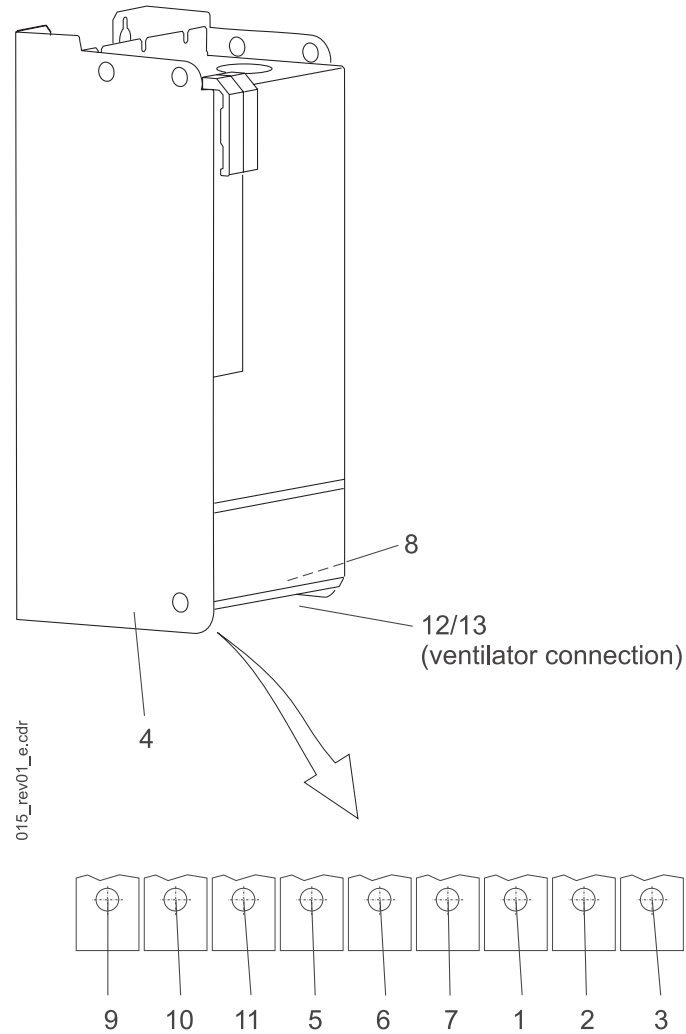

Figure 11: Power connections
Power connection are on the bottom side of the device (see >Figure 11< on page 43).
1) Position, see ▶Figure 11◀ on page 43.